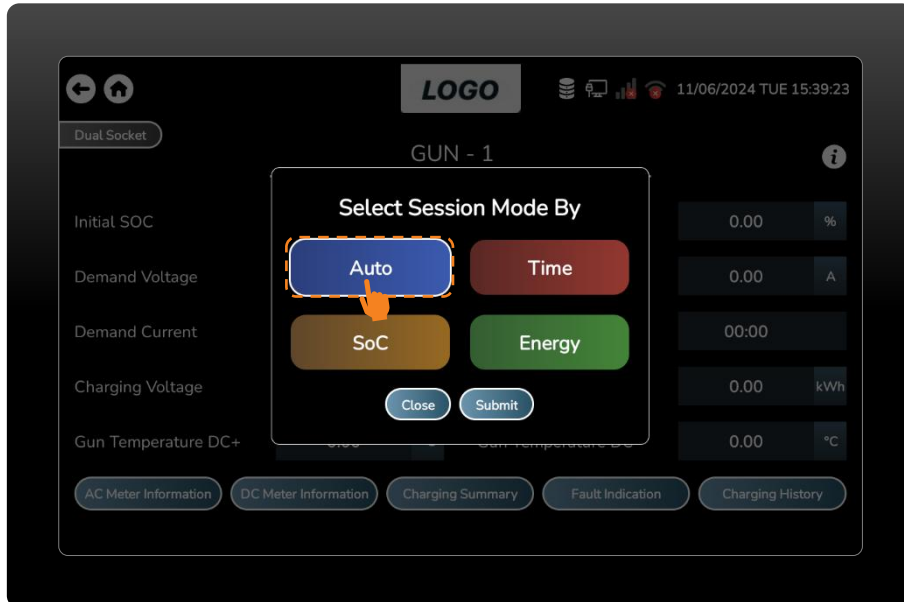

Figure 86 Auto Mode Select Mode.
- This auto mode is set by default in session mode, where it uses an ideal parameter for charging the vehicle. (Figure 86)